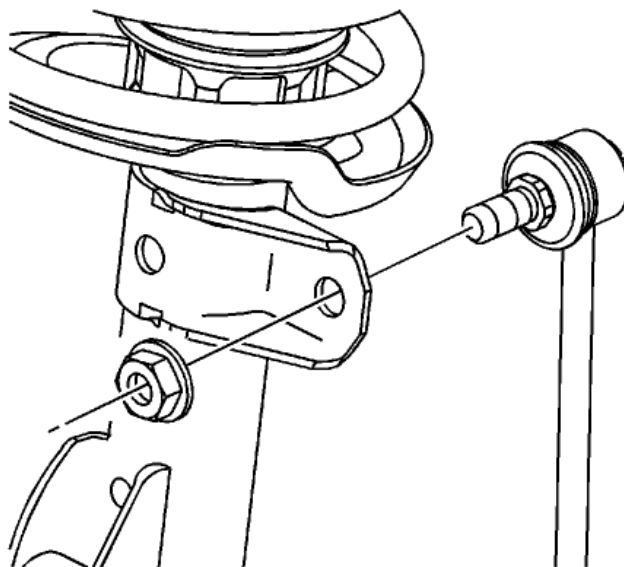

fig. 2
3. Unthread the stabilizer link nut from the strut and detach the link (fig. 2).
4. Reattach the stabilizer link through the tab with the previously removed nut. Torque to 65 Nm (48 ft./lbs.) (fig. 2).